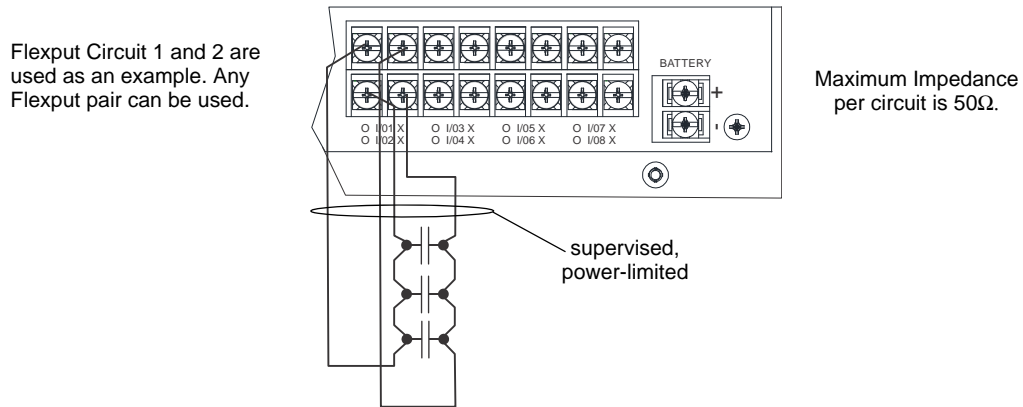

Figure 4.41 Class A Initiating Switches
- Wire the Class A switch as shown in Figure 4.41.
**NOTE:** In programming any point that uses multiple Flexput circuits, the lowest Flexput circuit number is used to refer to the circuit pair. For example, Figure 4.41 uses both Flexput circuit 1 and 2, so in programming it would be referred to as point 1.